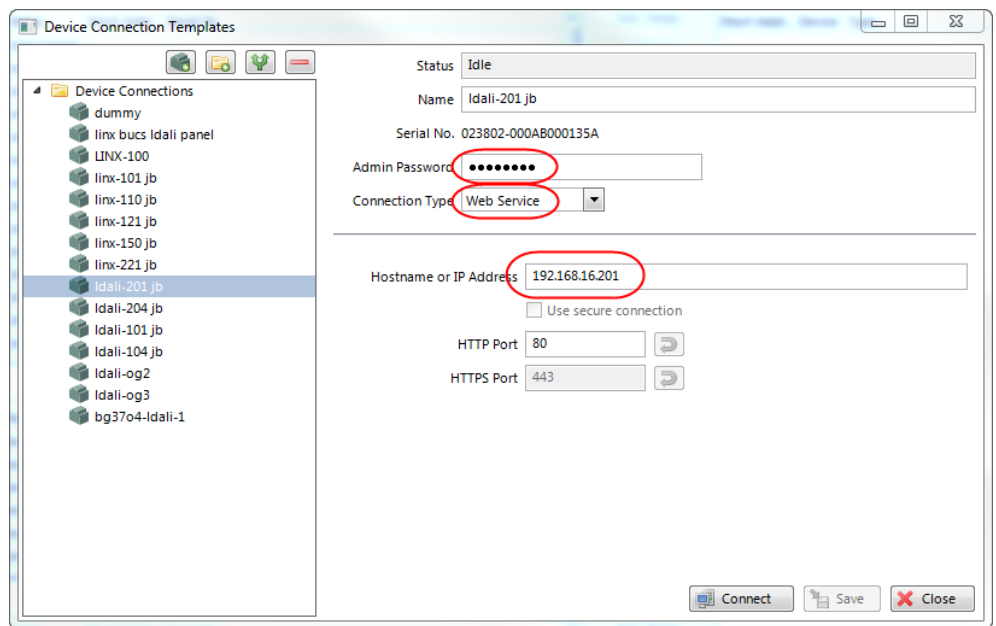

Figure 25: LINX Configurator software, Connection Dialog.
2. In the Connection dialog (see Figure 25) choose connection type “Web Service”, enter the IP address or hostname of the L-DALI and the devices “admin” password. The default “admin” password is ‘loytec4u’ (older firmware versions used ‘admin’).